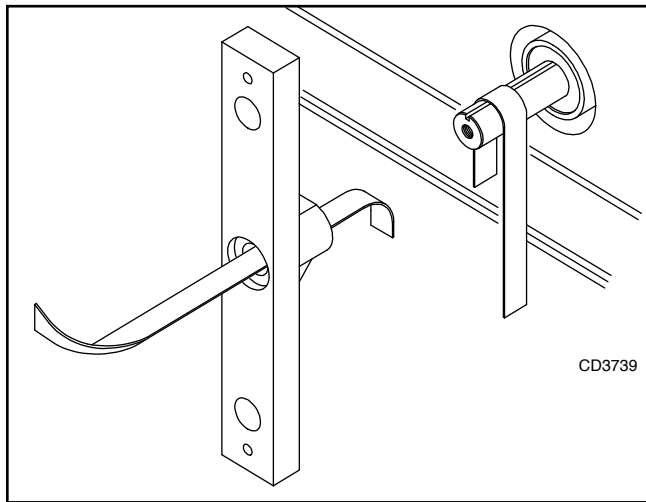

Figure 21.
1. Using emery cloth (220 or finer), remove surface rust, Loctite® and foreign material from hub, splined gearbox, vertical shaft, and crossbar as shown in Figure 21.